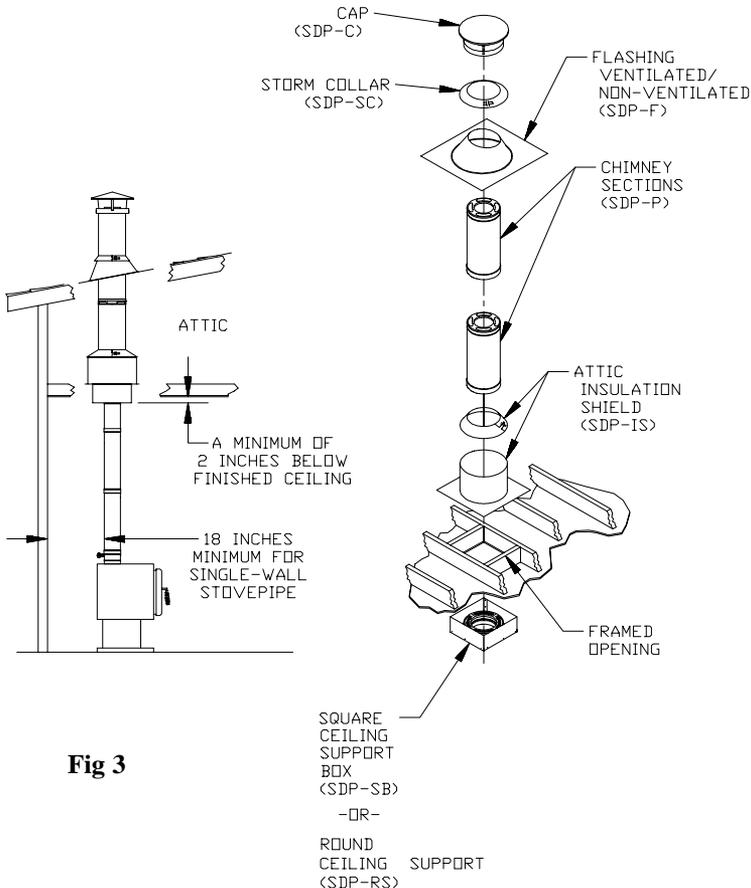

Fig 3
2. Frame Support Opening: Drop a plumb bob to the center of the appliance's flue outlet and mark this center point on the ceiling. Refer to Table 2 for specific framing and clearance dimensions. Mark appropriate cutting lines around the center point. Cut a square hole in the ceiling for a **Square Support Box**, or a round hole for a **Round Support Box**. Frame a level, square opening centered over the hole which you have cut. (Figures 3 and 4).